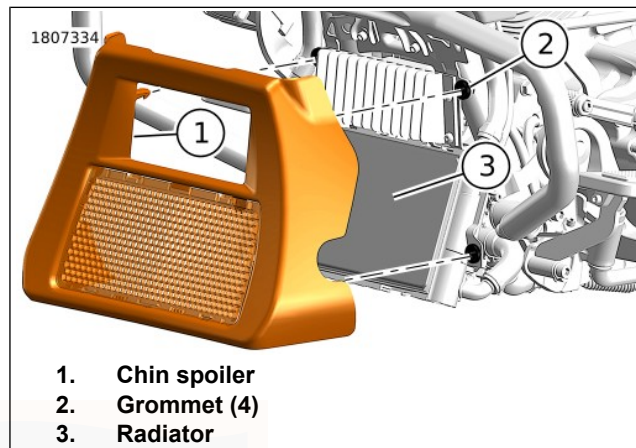

Figure 104. Chin Spoiler
1. See Figure 104. Remove chin spoiler.
- b. Pull chin spoiler (1) straight forward.
2. Clean debris from radiator (3) fins.
- c. Align barbed studs on chin spoiler with grommets (3).